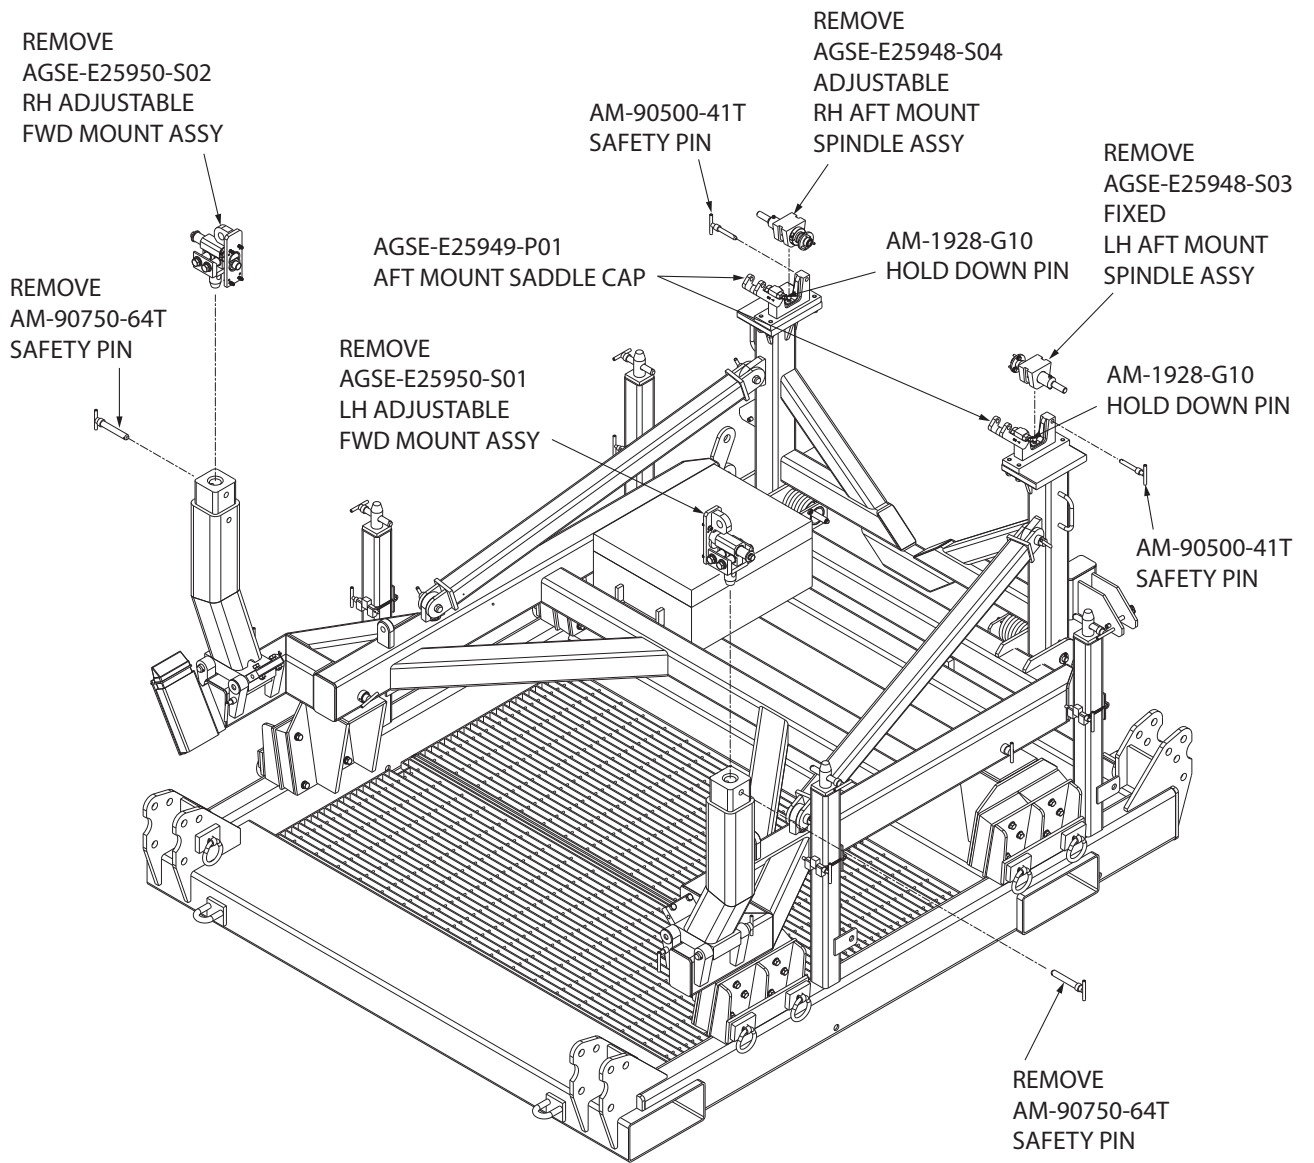

Figure 5.1-1
- 3) Remove the AGSE-E25950-S01 LH fixed FWD mount assembly and RH adjustable AGSE-E25950-S02 FWD mount assembly from the cradle by removing the AM-90750-64T safety pins (2) (Figure 5.1-1).
- 4) Remove the AM-90500-41T safety pin to pivot open the AM-E25949-P01 AFT mount saddle cap on the AGSE-E25948-S01 LH fixed AFT mount assembly to remove the AGSE-E25948-S03 LH fixed AFT mount spindle assembly from the cradle (Figure 5.1-1). (If the mounts are not installed on the cradle, they can be found in the mount container.)
- 5) Remove the AM-90500-41T safety pin to pivot open the AM-E25949-P01 AFT mount saddle cap on the AGSE-E25948-S02 RH adjustable AFT mount assembly to remove the AGSE-E25948-S04 RH adjustable AFT mount spindle assembly from the cradle. (Figure 5.1-1). (If the mounts are not installed on the cradle, they can be found in the mount container.)